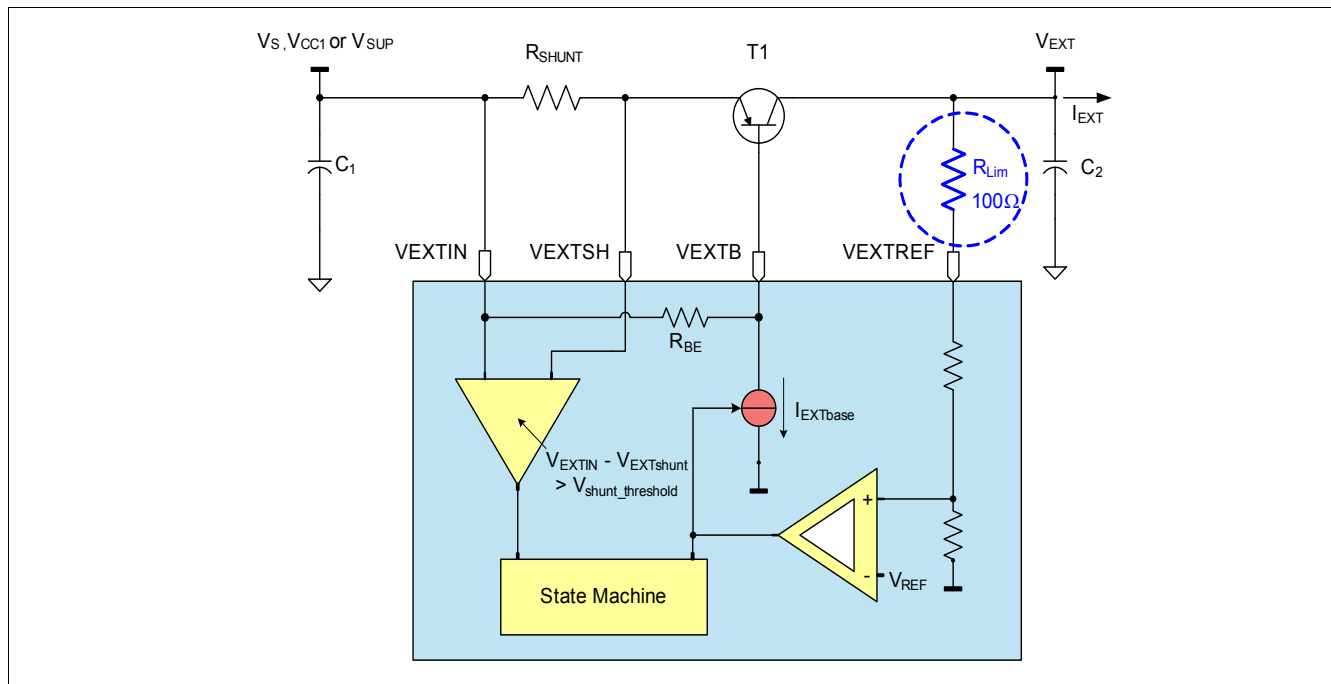

Figure 16 VEXT Hardware Setup
*Note: If the VEXT output voltage is supplying external off-board loads, the application must consider the series resonance circuit built by cable inductance and decoupling capacitor at load. Sufficient damping must be provided(e.g. series resistor with capacitor directly at device or 100 Ω Resistor between PNP collector and VEXTREF with 10 μ F cap on collector (see **Figure 16**).*
Figure 16 shows the hardware set up used.